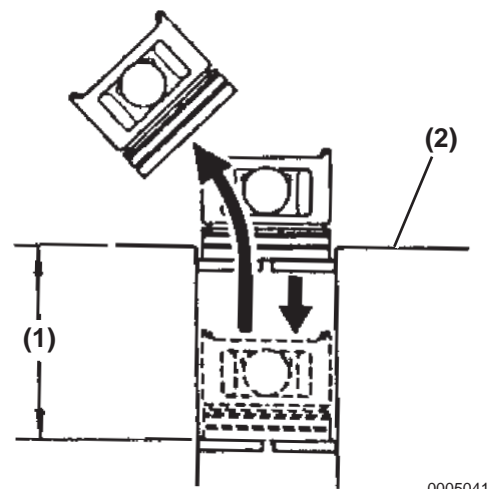

Figure 5-118
(b) Press in the piston ring to a position 130 mm (5.118 in.) (**Figure 5-118, (1)**) from the cylinder block top surface (**Figure 5-118, (2)**), using the piston.